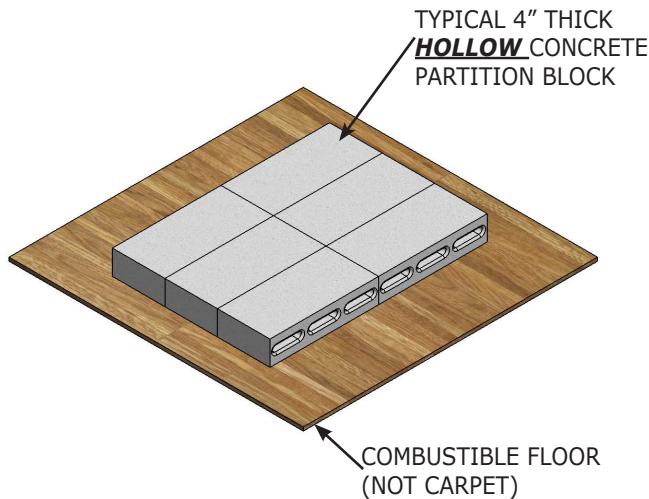

Figure 1 - Boiler Placement On Constructed Pad
- Allow 3" front and rear of boiler. See Figure 1.
- Allow 1" each side. See Figure 1.